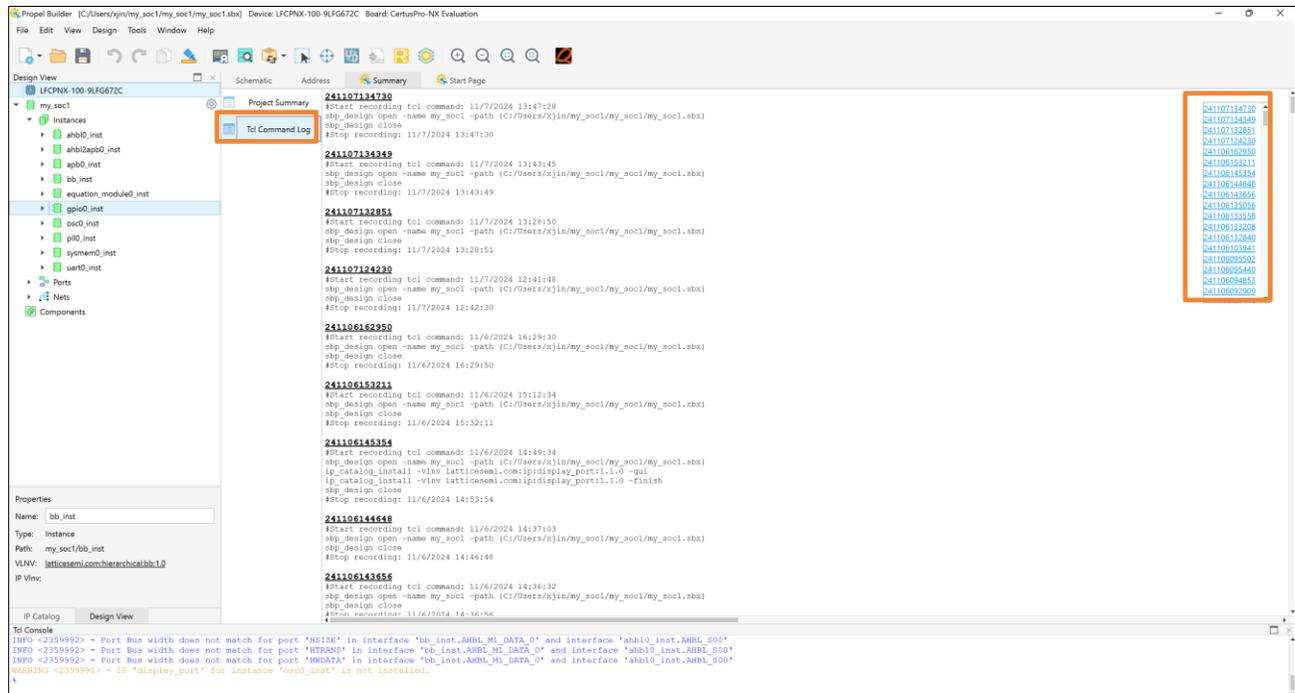

Figure 2.14. SoC Project Summary – Tcl Command Log
- Click **Tcl Command Log** in **Summary** (Figure 2.14) to see all history Tcl command of this SoC project.